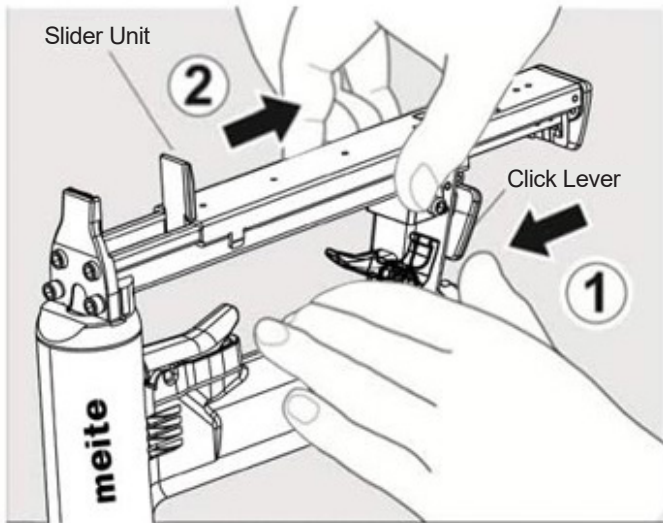
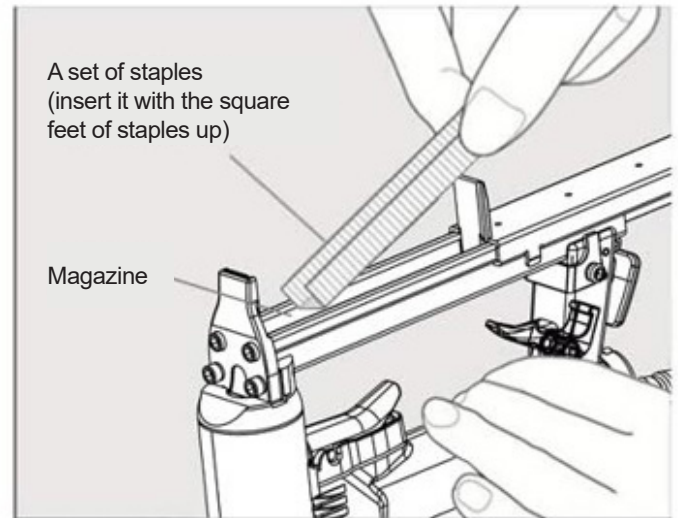

Fig. 1
Fig. 2
- Turn upside down. Depress the magazine lever (Fig. 1) and pull open magazine slide (Fig. 2).
- Drop in a strip of staples with staple legs pointing up (Fig. 2).